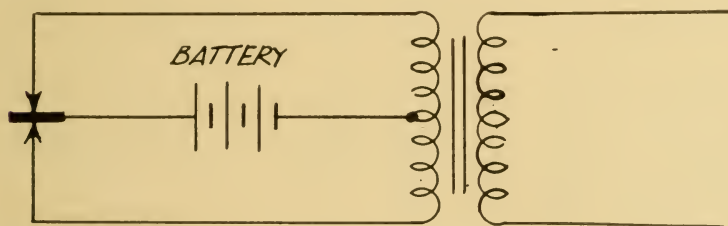

FIG. 124.—Circuit of a double-button carbon microphone.
(32) The common, or carbon-type, microphone consists of a carefully weighed quantity of carbon granules between two metal plates, one of which is a diaphragm free to vibrate in response to sound vibrations in the neighboring air. The effect of the vibration is to vary the pressure on the carbon and thereby change its resistance to the flow of current. A steady direct current passes through the microphone. When the diaphragm vibrates the amperage increases and decreases in rhythm with the frequency of the sound that causes the vibration, and in proportion to its intensity. The commonest microphone circuit is that for the "double-button mike," shown in Figure 124. The granules in one "button" are compressed while those in the other are released from pressure. The resulting fluctuations in the current through the transformer primary generate an alternating current of corresponding frequency and strength in the secondary.